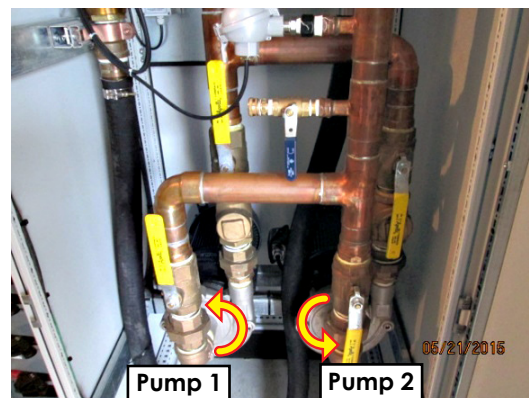

Figure 14: Rotation should be anti-clockwise as viewed from the outside of the cabinet
21. With an assistant watching pump 1 through an inspection window in the back of the housing, start and stop pump 1 quickly and visibly verify proper rotation as shown in Figure 14.
22. With an assistant watching pump 2 through an inspection window in the back of the housing, start and stop pump 2 quickly and visibly verify proper rotation as shown in Figure 14 on page 9.